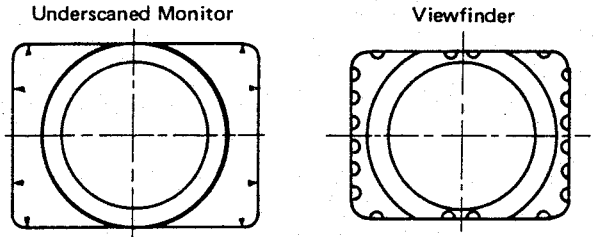

Fig. 6-5-3
- Aim the camera at the ball chart, and line up the reference arrow head with edge of the raster (blanking) on an underscanned monitor. (Fig.6-5-3)
- Adjust H.SIZE L805 to a point where the ball chart's left bright edges just disappear on the viewfinder. (Fig.6-5-3)